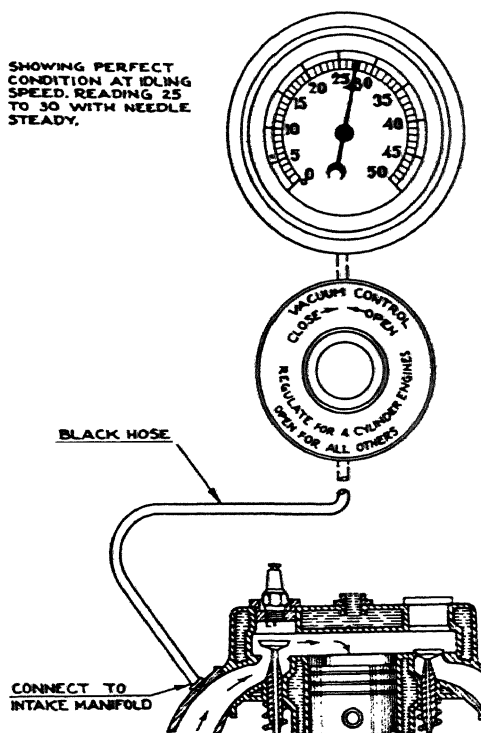

Fig. 26. Vacuum Meter Showing Reading During Vacuum Test
**Vacuum Test.** Connect the vacuum hose to the intake manifold, Fig. 26. Make connection as close to the intake manifold as possible. The black hose on the equipment is the vacuum hose.
**Vacuum Control on Test Panel.** This is only used when testing four-cylinder engines. On this type of engine there is an uneven pulsation causing a vibration of the vacuum needle. Turn the knob to the right in "close" direction until the vibration ceases. When taking vacuum readings on any other engines, regardless of the number of cylinders, turn the knob to the left or "open" direction. If the engine is in perfect condition the needle of the vacuum meter remains steady, Fig. 26, between 25 and 30. (Vacuum readings will vary with alti-